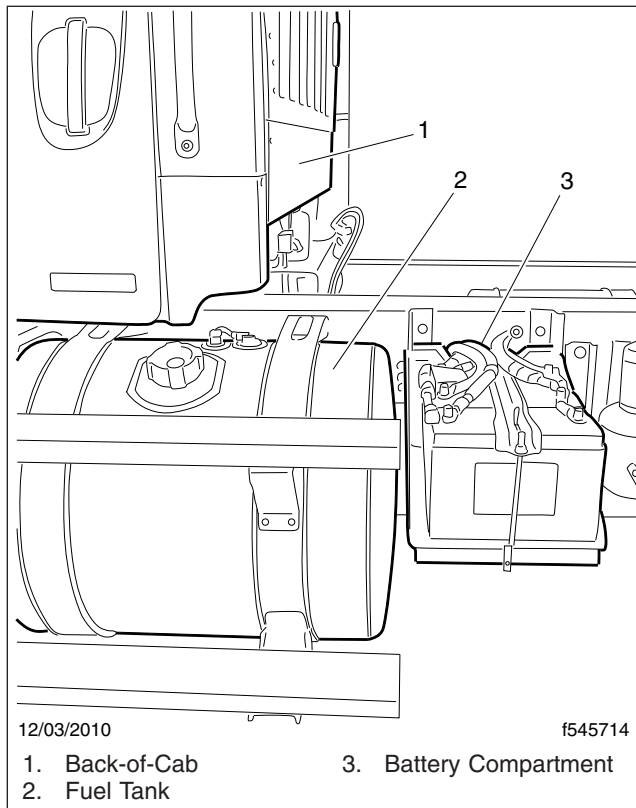

Fig. 21.17, Standard Battery Compartment Location
- 2.1 Remove the battery box cover and inspect all visible battery cables for loose wiring or damage. See Fig. 21.17.